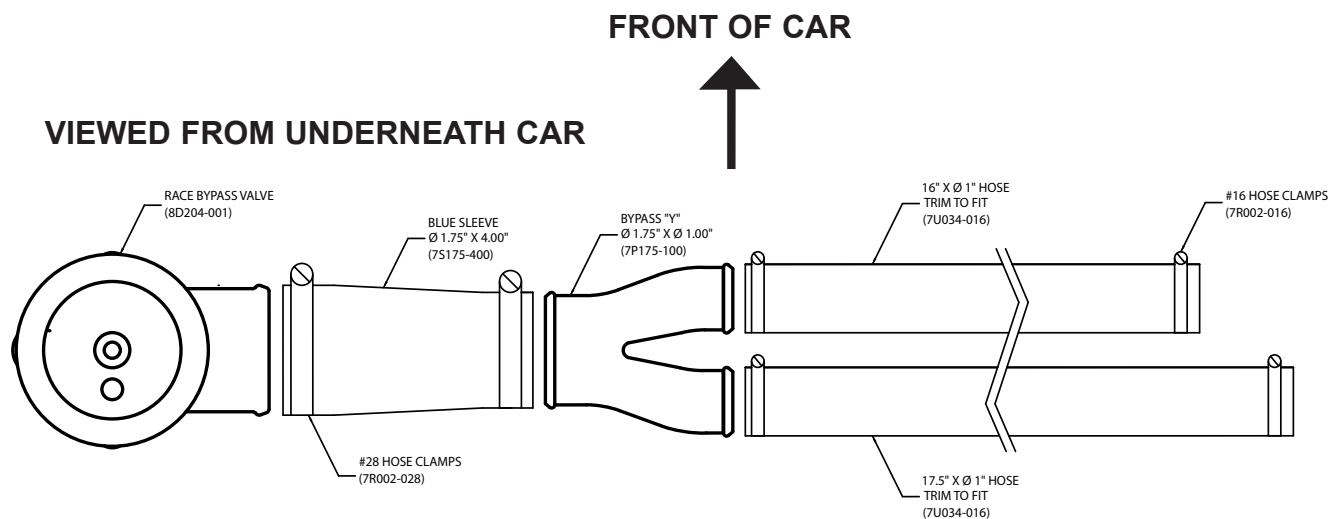

Fig. 8J
1. Assemble the bypass using the supplied Maxflow Race Bypass valve, Ø 1.75" silicone coupler with two #28 hose clamps, Bypass "Y", and two lengths of 1" hose cut to lengths of 16" and 17.5" with four #16 hose clamps. (See Fig. 8J)